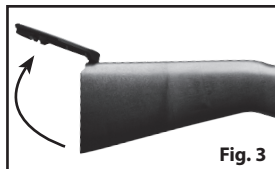

Fig. 3
2. Open the butt plate using your finger nail, pry open the cover towards the direction indicated (Fig. 3).